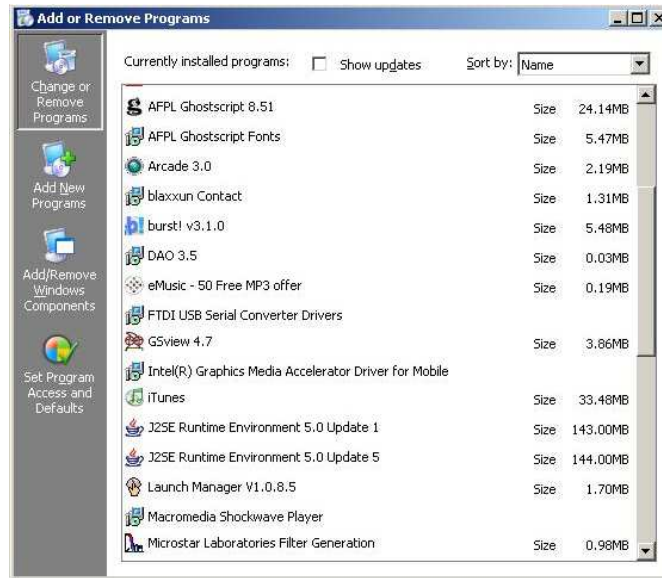

Figure 26: Add or Remove Programs
3. Double click on `Add or Remove Programs`, obtaining a screen like figure 26.
Figure 26 lists the FTDI drivers, so they are installed. Similarly, the Tcl/Tk program for the unit should be shown on the same list under *Syscomp*.
1. On the Add or Remove Programs list of figure 26, find the entry *System*. Double click on it to obtain the System Properties screen of figure 27.